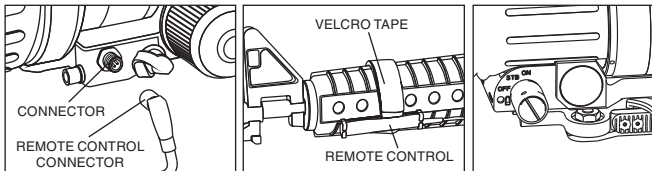

FIGURE 2-11. REMOTE CONTROL
1. Remove the rubber cap from the connector. The rubber cap can be placed onto the screw head, that attached the strap of cap to the body of device (see Figure 2-11).